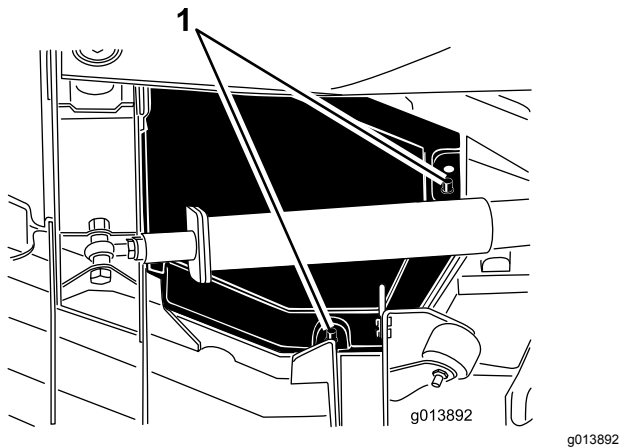

Figure 74
4. Lift the rear and inside cover edges off the mounting posts (Figure 74).